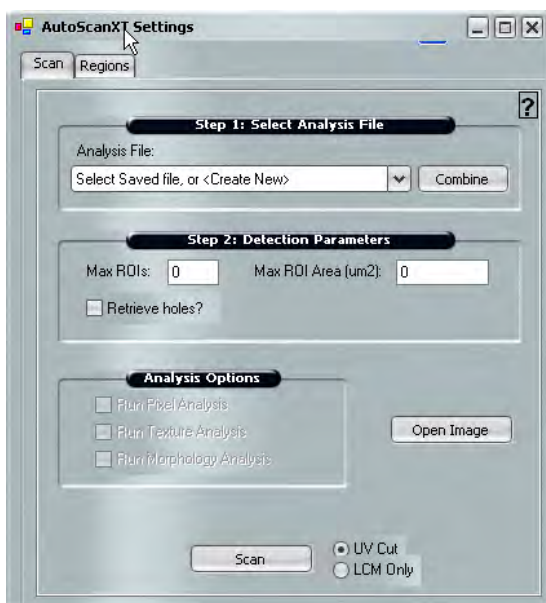

Figure 3. AutoScanXT Settings Window, Scan Tab.
6. A static image will appear along with the “Scan” tab of the AutoScanXT Settings window (Figure 3).